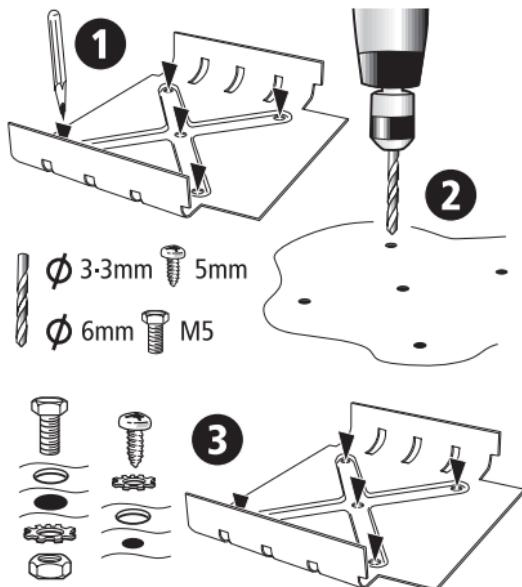

Figure 4: Mounting
- Hold the drilled half of the metal cradle cover in the position chosen for the radio and use the four cradle cover mounting holes as a template to mark the locations for drilling (see figure 4). Ensure that drilling at the selected points will not damage existing wiring. Indent the drilling positions with a centre punch and drill 4mm holes for self-tapping screws, or 6mm holes for